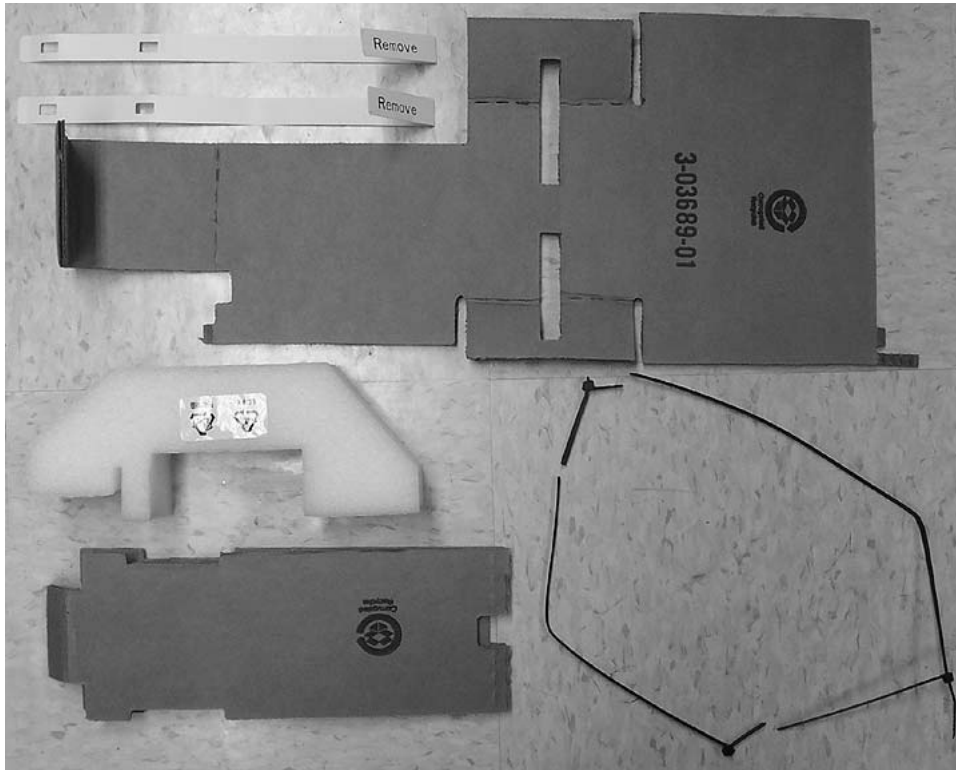

Figure 3-3. Library packaging material pieces
6. Refer to Figure 3-3 on page 3-4 and ensure that you have removed all of the packaging material.